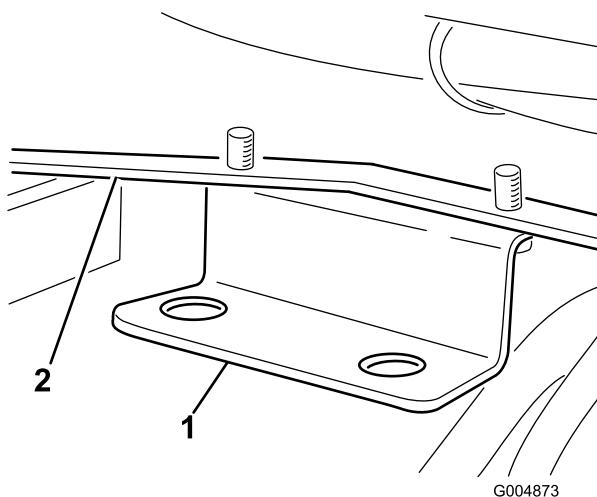

Figure 15
- Install the bulkhead bracket to the left rear frame mount with 2 self-tapping screws (5/16 inch) (Figure 15).